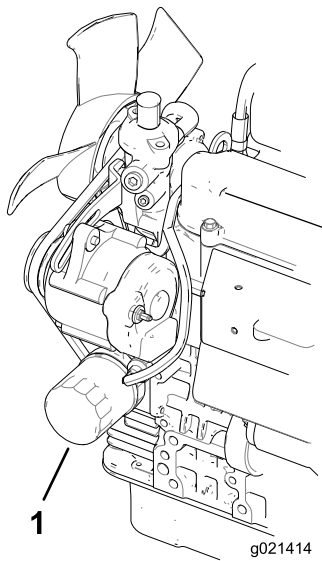

Figure 45
2. Remove the oil filter (Figure 45). Apply a light coat of clean oil to the new filter seal before installing the filter. **Do not overtighten.**